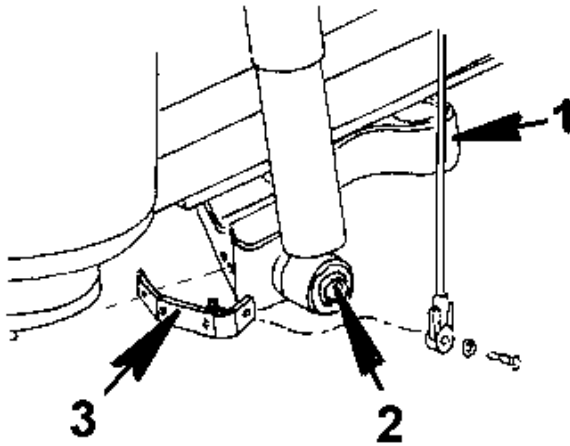

Figure 21 Lower Shock Absorber Mounting Bolt Removal
9. Remove lower shock absorber mounting bolt, and remove shock absorber (Figure 21).
Position spring to approximate installed position (Figure 17) and install the bar pin in hanger **on the forward side of the spring hanger**. Also install lower shock bracket end and **do not** tighten fasteners (Figure 21).